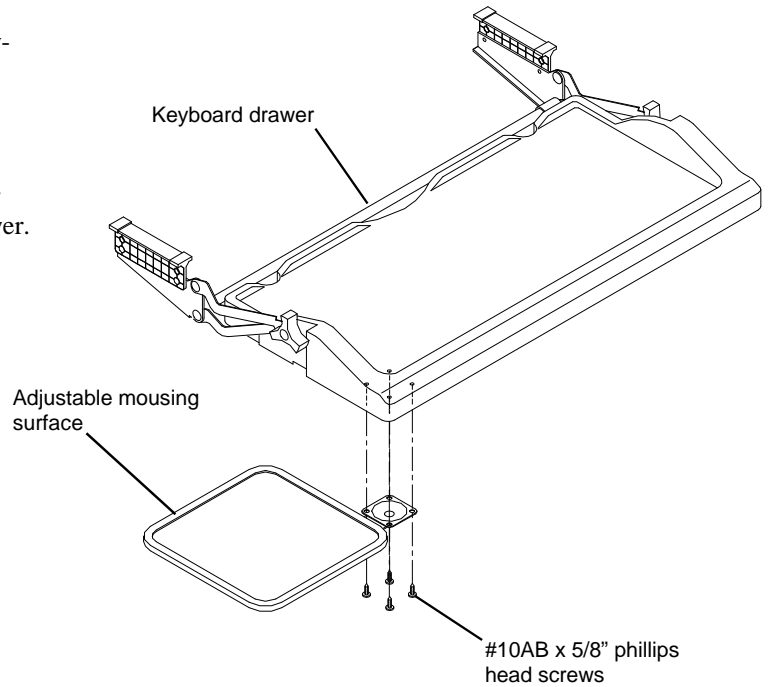

Figure 7
7. Attach the **Adjustable Mousing Surface** to the keyboard drawer using the pre-drilled holes and four #10AB x 5/8" phillips head screws provided. See **Figure 7**.